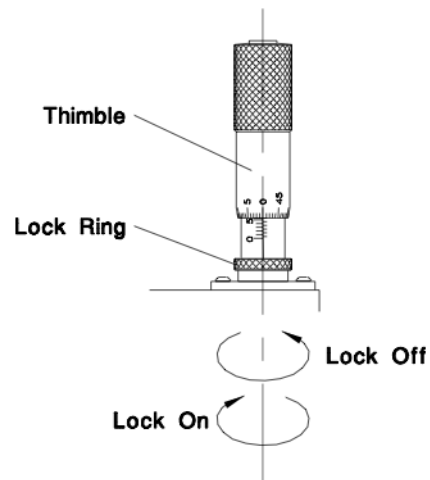

Figure 3. Micrometer Locking Ring Operation
- Micrometer Locking Rings:** Each micrometer has a black knurled locking ring that, when turned clockwise, will lock the micrometer so that it will not easily rotate. This ring must be unlocked (turned counterclockwise) before the micrometer is rotated or the tuner may be damaged. With the ring in the unlocked position, the micrometer thimble will turn easily with little or no resistance. This allows the user to feel the mechanical stops and avoid applying undue rotational pressure. Please see Figure 3 for an illustration of the micrometer locking ring operation.
- Battery Compartment Cover and Battery:** This cover slides down so that the battery that powers the digital scale read out can be changed. The battery should be replaced only with an SR44 button-type silver oxide cell, or its direct equivalent. This is a common battery often used for watches and can be purchased at many stores. It should be installed with its positive side facing up. After battery replacement, the digital scale origin can be restored by moving the carriage (item 10) fully to the left, and then holding the Origin switch (item 16) down for more than one second. When the digital display (item 14) shows the letter "B" in